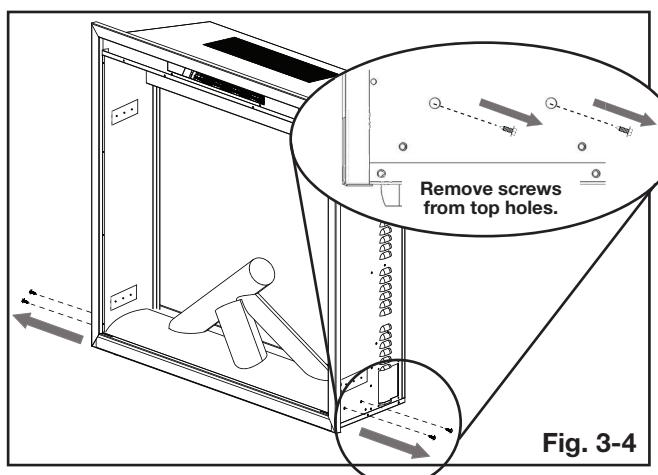
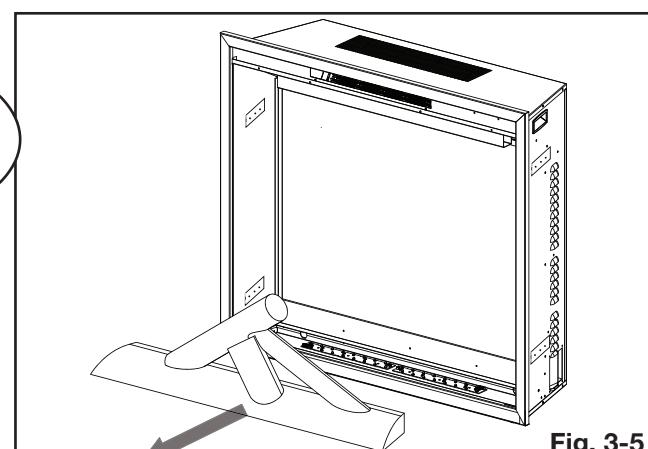

Fig. 3-4
Fig. 3-5
4. Remove the 4 screws holding the log set in place (**Fig. 3-4**) then carefully remove the log set. Set the log set aside (**Fig. 3-5**) and discard the 4 screws.